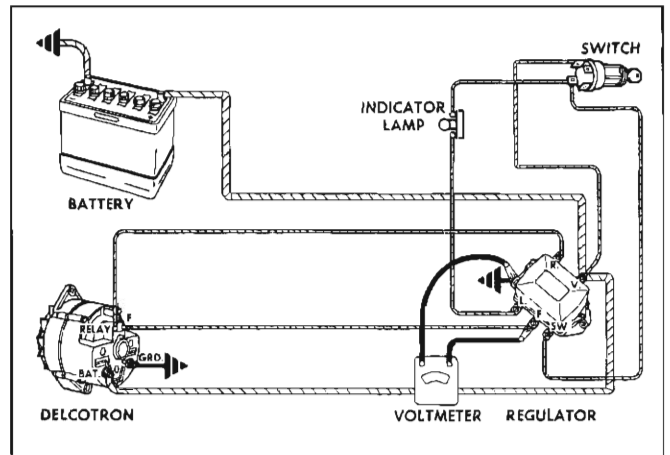

Fig. 5—Checking Field Relay
3. **MALFUNCTION OF FIELD RELAY** - to check the field relay, connect a voltmeter from regulator "F" terminal to ground (fig. 5). Turn on ignition switch, but do not start engine. The voltmeter should read battery voltage. If it reads